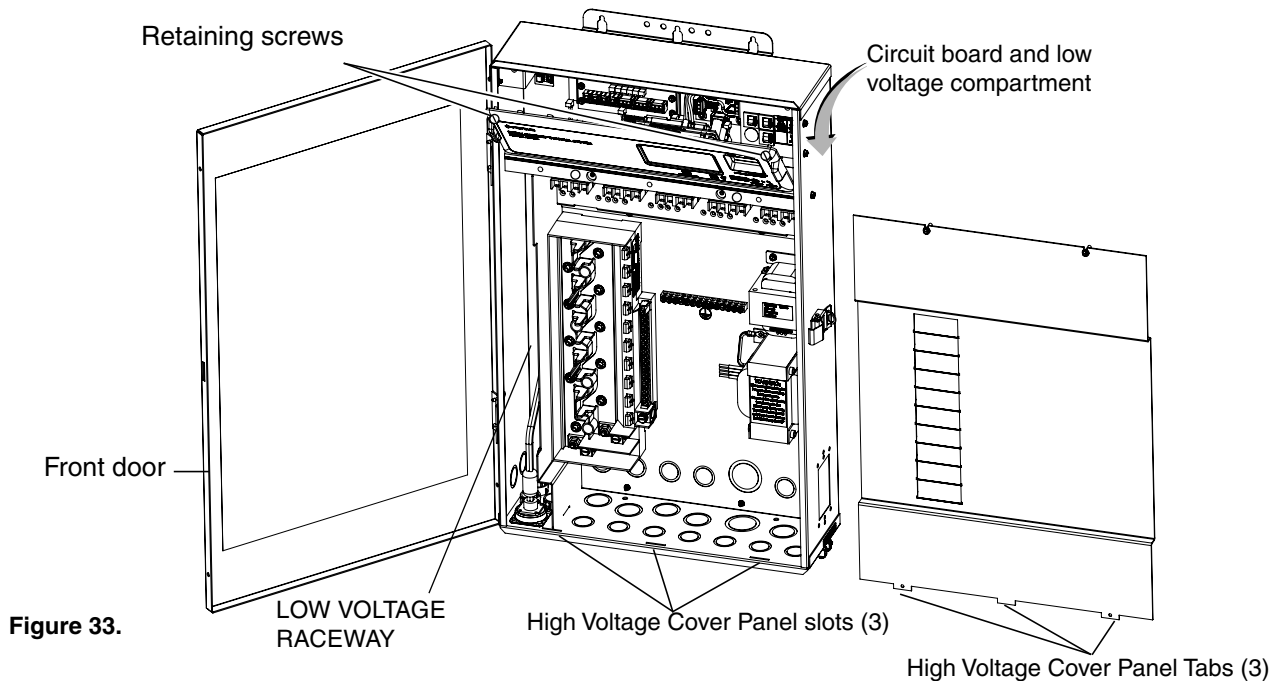

Figure 33.
2. Unlatch the front door latch and open the front door. Remove the two retaining screws from the High Voltage Cover Panel and remove the panel. See Figure 33.